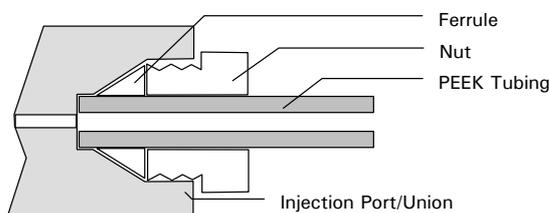

FIGURE C-3. PEEK tubing with Nut and Ferrule
- Connect the PEEK inlet tubing with the universal 1/16" fingertight fitting or a stainless steel nut and ferrule directly to the injection valve (e.g. the FAMOS injection valve) or to the union of the connecting tubing, FIGURE C-3).
- Insert one of the column inlet filters (P/N160497) into the injection valve/union. Make certain that the filter comes to rest at the bottom of the port (FIGURE C-3).